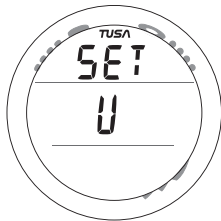

Fig. 48 - SET U (UTILITIES)
- > A and S (simultaneously for 6 sec) while NORM (or GAUG) Surface Main is displayed will access Set U (Fig. 48).